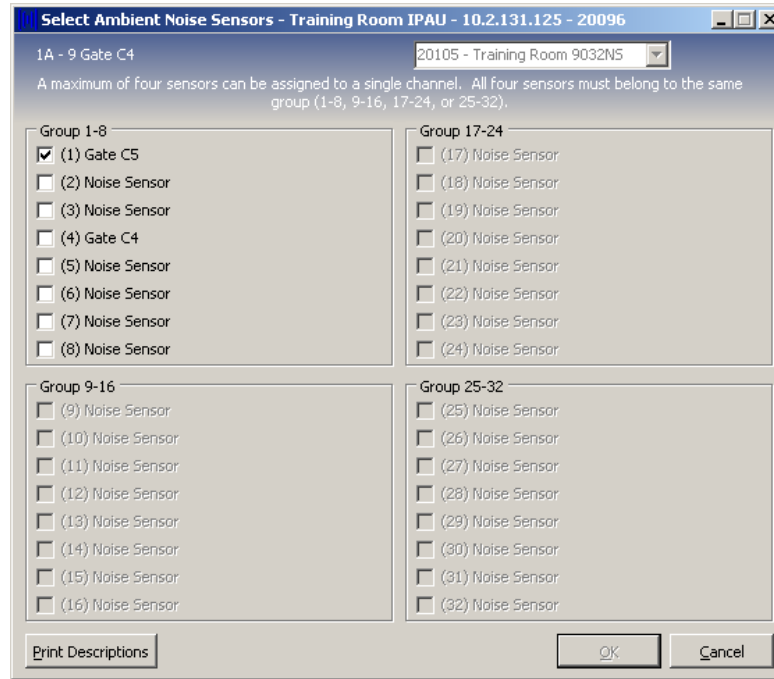

Figure 2-15: Ambient Sensor Assignment
Clicking on the **Assign Sensors** button will launch the Ambient Sensor Assignment window as shown in Figure 2-15. This is where one or more ambient sensors are directly assigned to control the currently selected channel. Each channel can have one (1) to four (4) ambient noise sensors assigned. When multiple sensors are used, the system averages the signal levels from all assigned sensors to obtain an ambient noise level reading. There are three very critical rules related to using multiple ambient noise sensors in a single zone that are described below.
1. Click on the **Assign Sensors** button from the Ambient Analysis Window. The Ambient **Sensor Assignment** window will be displayed as shown in Figure 2-15.
**Note:** Sensor inputs on collector units are sub-divided into groups of eight (8). All sensors for a single channel must reside on the same collector unit group. If a sensor is currently selected for a channel, then all other groups will be grayed out and not available for selection. To change to a sensor that is not located in the currently selected group, first un-check all sensor assignments, then any sensor group will be available for selection.